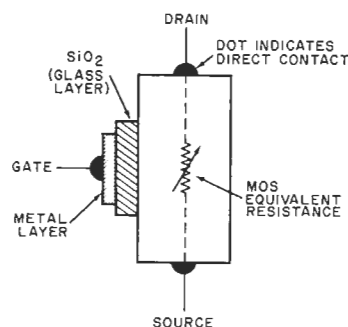

Fig. 1. Typical MOS device showing the insulated gate.
**MOS Device Construction.** In a circuit, a MOS device "looks" like a voltage-controlled resistor in which the equivalent MOS resistance between the drain and source is varied by a voltage applied to the gate electrode. (See Fig. 1.) Physically, the gate electrode is a thin layer of metal deposited on a very thin (about 1000 Angstroms) layer of silicon dioxide (glass). This layer of glass effectively insulates the gate from the substrate, in essence, forming a capacitor whose plates are the gate and substrate and whose dielectric is the layer of